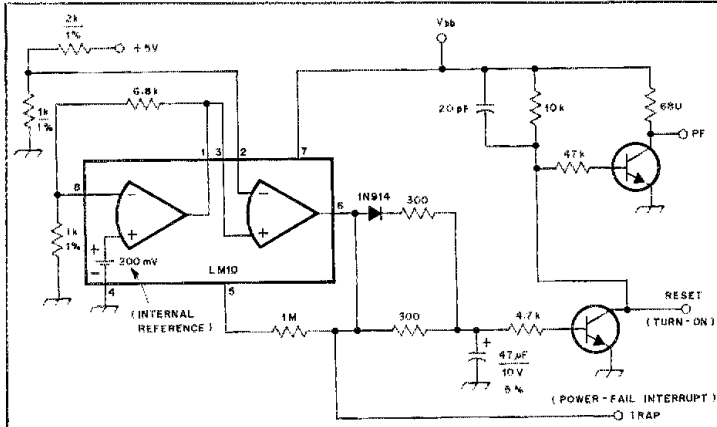

Fig. 4 — Schematic diagram of the power-on reset and power-fail detection circuits.
A novel power-failure detection circuit is shown in Fig. 4. The LM10 is an ultra-low power op-amp that operates from a supply as low as 1 volt, while drawing only 270 μ A! This means that it can be powered from the battery. It also contains a 0.2-V reference, which is multiplied by 7.81 to provide the other op-amp in the LM10 with a reference voltage of 1.56 volts. This second op-amp is run open loop as a comparator, getting some hysteresis from the 1-M Ω feedback resistor. The inverting input to the comparator is set to one-third of the power supply voltage, nominally 1.67 volts. This situation causes the output to remain low until the power supply potential drops to about 4.9 volts. At this point, the comparator trips, causing a Power-Failure (PF) interrupt to be signaled to the μ P, which can then cleanly stop whatever it was doing. A delay circuit then causes point PF to go high about 2 ms later, disabling the CMOS RAM before the supply goes below 4.75 volts, the minimum voltage at which the processor circuit is specified to operate. The same delay circuit provides an output to the processor reset line so that when power is restored, the reset line will be activated about 30 or 40 ms after the supply has reached 4.75 volts. (The 8085 requires that reset be activated at least 10 ms after the supply has reached 4.75 volts and the clock is running.) This circuit assumes that the power-supply voltage decreases exponentially with a time constant of about 150 ms.